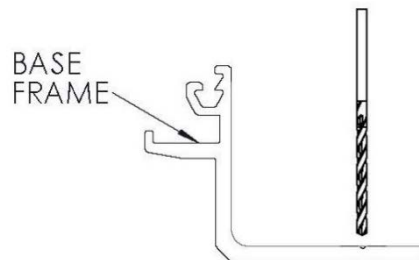

FIGURE 1
1. Drill 3/16” holes into base frames along a line 1/2” from the leg edge. Holes should start 2” from each end and be spaced 18” o.c. **See Figure 1**